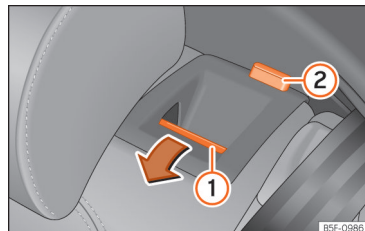

Fig. 71 Rear seat: folding down the backrest.
- Press the unlock button »» Fig. 71 ① forwards and at the same time fold the backrest down. The rear seat backrest is not engaged when the red marking of the button ② is visible.